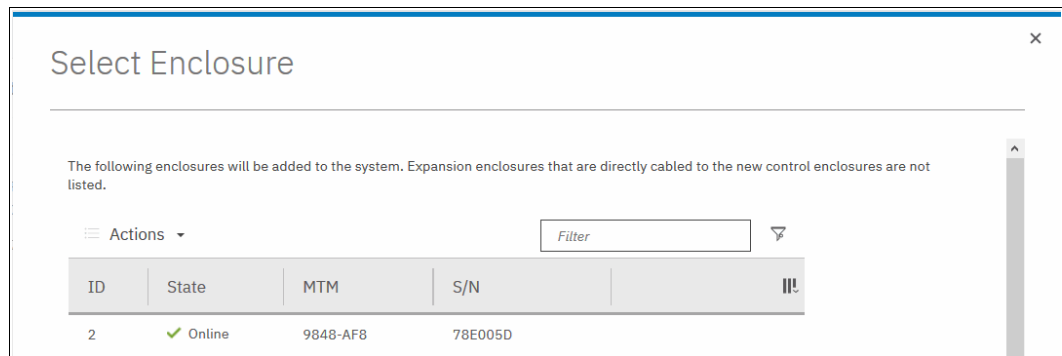

Figure 3-32 Selecting the control enclosure to add
2. Click **Add Enclosure**, and a list of available candidate enclosures opens, as shown in Figure 3-32. To light the Identify light-emitting diode (LED) on a selected enclosure, select **Actions** → **Identify**. When the required enclosure (or enclosures) is chosen, click **Next**.